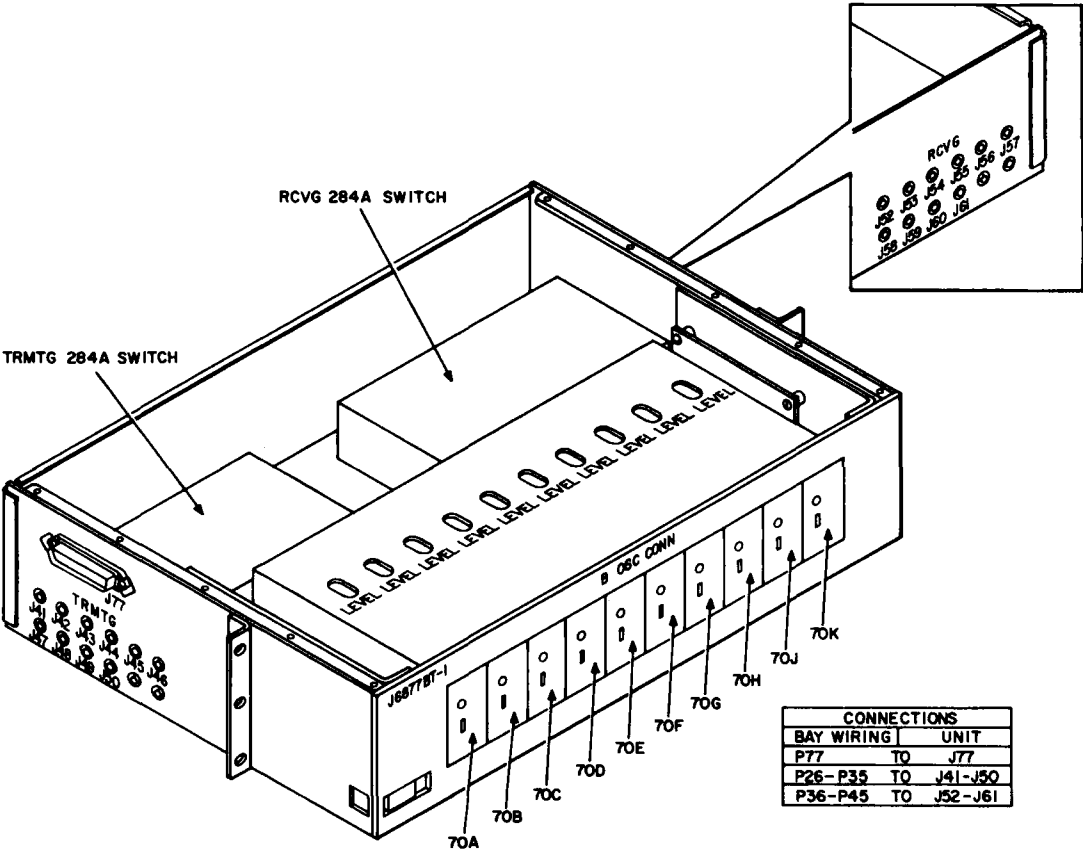

Fig. 17—B Equalizer Test Signal Panel J68877BT
A. B Equalizer Test Signal Panel J68877BT (Fig. 17)
10	Remove power from the panel by removing plug P77 from jack J77 (Fig. 17).